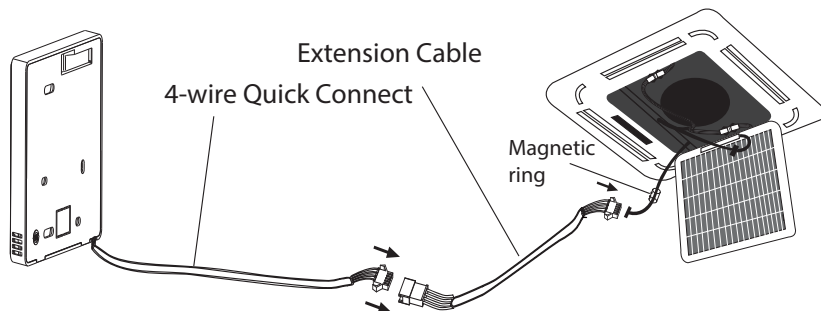

Fig. 7 — 4 - Wire Quick Connect
- e. Run interconnecting cable from the wired controller to the indoor unit connecting to the PCB board using the quick connects. The included magnetic ring reduces any high frequency noise from the communication wire, which is installed on the connection cable close to the indoor unit (see Fig 7).